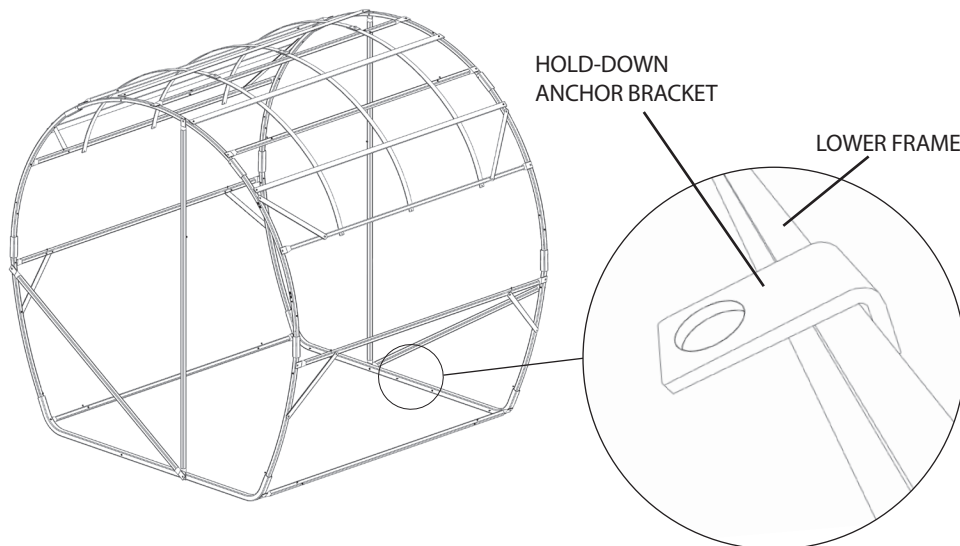

Figure 39.1
ANCHORING YOUR BLIND TO THE GROUND: Locate the (1) REBAR ANCHOR STAKE & the (1) HOLD-DOWN ANCHOR BRACKET. On one of the sides of the blind frame, using a Large Hammer / Sledge, drive the REBAR ANCHOR STAKE through the HOLD-DOWN ANCHOR BRACKET, making sure the HOLD-DOWN ANCHOR BRACKET is securely placed over the LOWER FRAME , as illustrated in Figure 39.1.